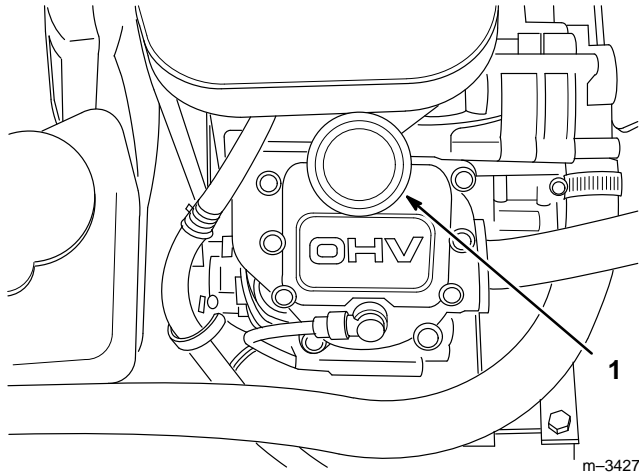

Figure 30
6. Remove the oil filler cap (Fig. 30) and refill the engine with a high-quality, API Service SG or SH engine oil (see viscosity chart).
7. Slowly pour approximately 80% of the specified amount of oil into the filler tube (Fig. 30). Now check the oil level; refer to Checking the Engine Oil Level, page 11. Slowly add additional oil to bring the oil level to the FULL mark on the dipstick.